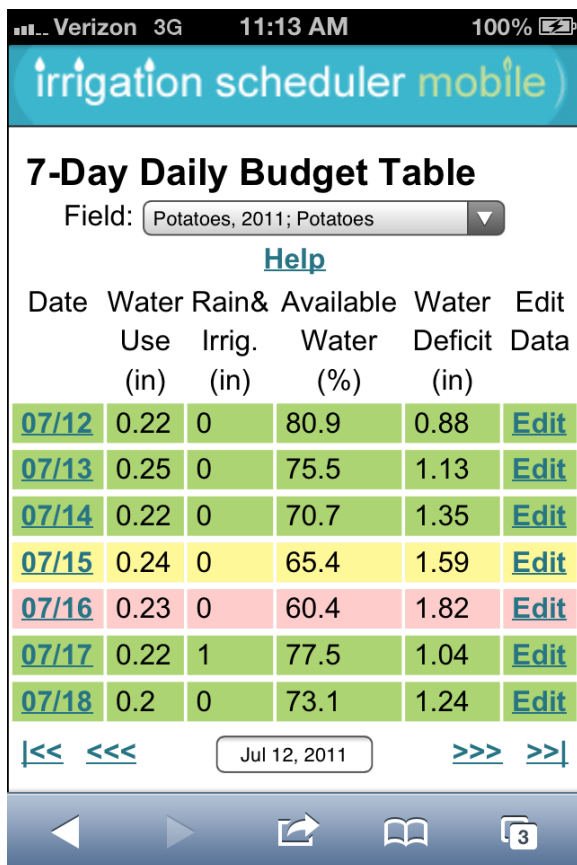
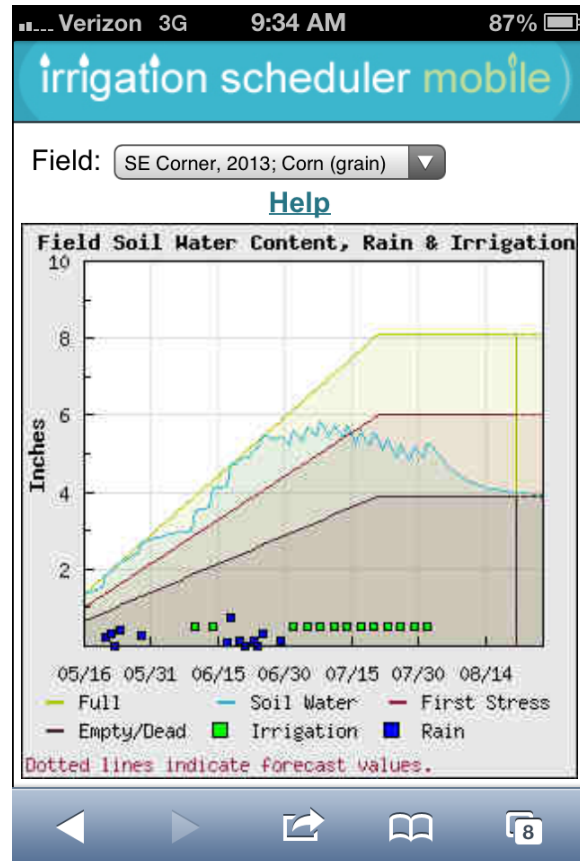

Figure 5. Daily Budget Table screen
Figure 11. Shows how water stress (below the MAD line) causes daily water use to decrease.
The Daily Budget Table screen (Figure 5) shows the most relevant values from a daily soil water budget and allows the user to edit the inputs for each day using the “Edit” link.
**Line Colors:** When the calculated soil water content is well above the MAD point and the plant growth should be at maximum, then the row is highlighted green (Figure 5). When the soil water content gets close to the MAD line (only 15% of the readily available water remaining) then the row turns yellow. And when the soil water content goes below the MAD line the row is highlighted red as a warning of crop water stress.
Figure 11 is an example of a field where the irrigation system cannot keep up with crop water use demands and also shows how the model will modify daily crop water use numbers using the assumptions illustrated by Figure 5. As the soil dries below the First Stress (MAD) point, the rate of drop in the soil water content decreases over time as the plant shuts down.
This model uses a very simplified method of yield loss estimation. When the soil water content goes below the red MAD line as in Figure 11 it is assumed that there is yield loss that is equivalent to the amount of decreased water use similar to Figure 5. In other words: